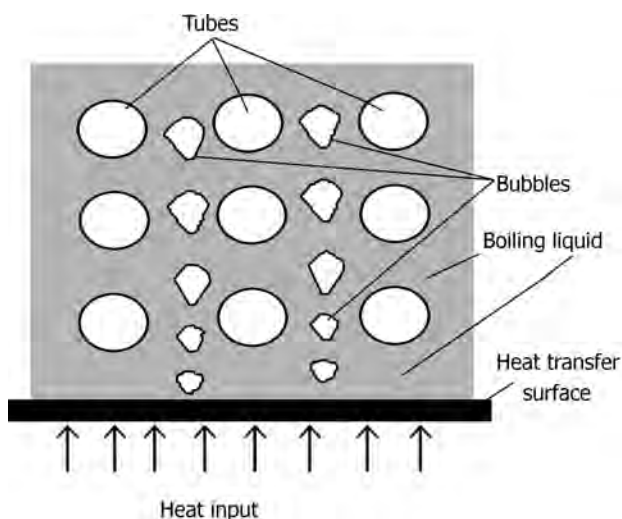

FIGURE 10.17 Vapor bubbles rising through boiling liquid inside a heat exchanger with square tube pitch.
- When boiling liquids are on the shell side. Square pitch allows vapors to rise through spaces between the tubes (Figure 10.17).